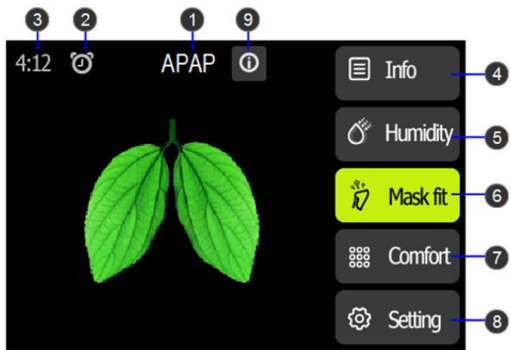

Figure1 Patient Standby Interface
1. Ensure power is supplied to the device. The first screen to display will be the brand logo, within 5 second followed by the patient standby screen (See Figure 1).